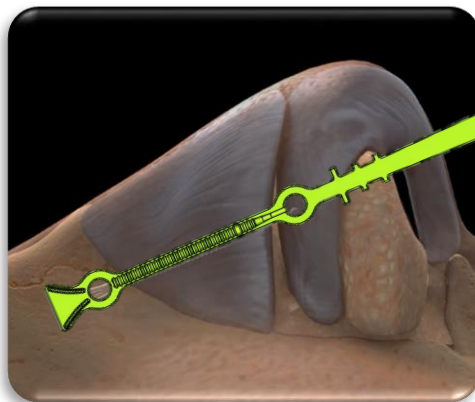

Figure 4: Implant Positioning Guide superimposed on upper and lower lateral cartilage
3. Use the Implant Positioning Guide to mark the surgical trajectory as shown in **Figure 4** using a standard surgical pen. The holes provided on the Implant Positioning Guide allow for marking the base of Implant forked tip and the spherical end of the atraumatic proximal tip. The distal mark correlates to the final position of the cannula tip prior to implant delivery.